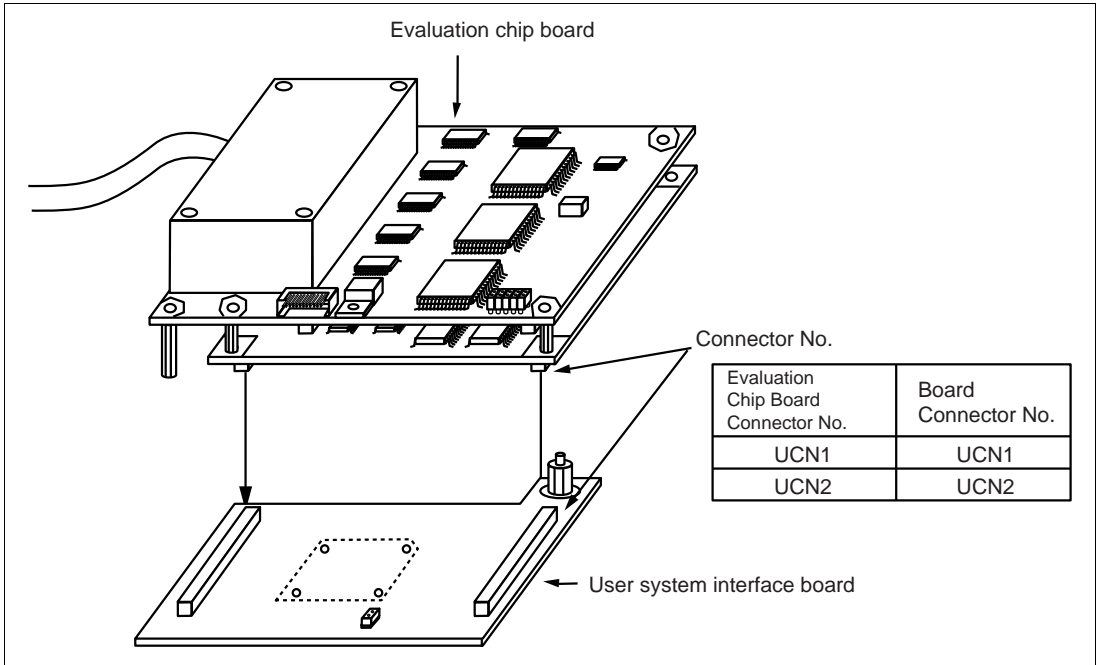

Figure 4 Connecting User System Interface Board to Evaluation Chip Board
2. Align the connectors on the board with those on the evaluation chip board according to their numbers (figure 4).